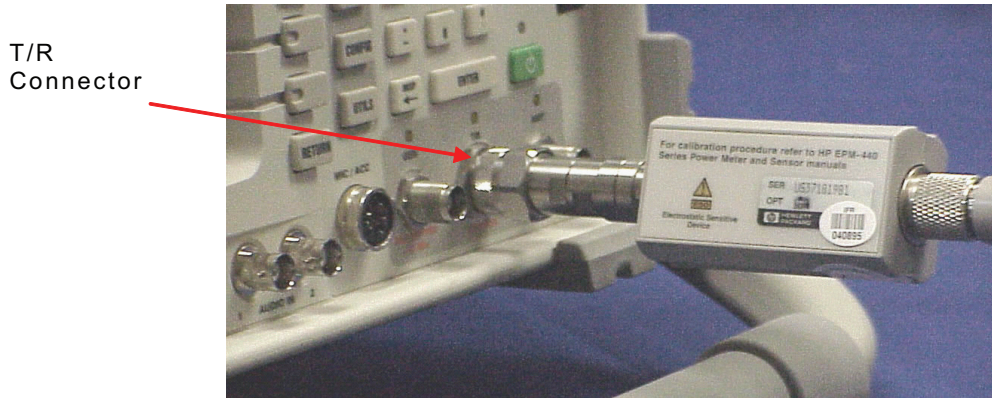

Fig. 4-11 T/R Port Calibration Setup
3.	Configure equipment. Refer to Fig. 4-11 as needed.